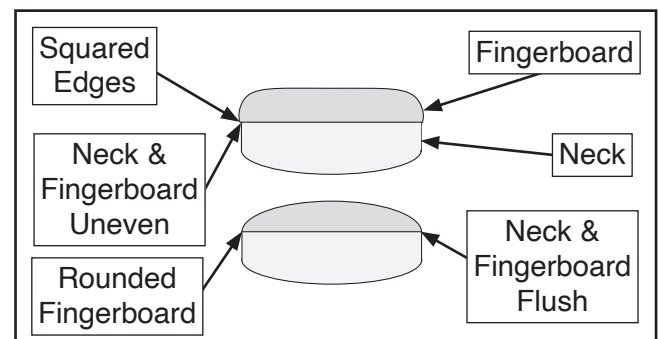

Figure 4. Shaping fingerboard.
5. Use sandpaper or file to round off any square or sharp edges. Make sure fingerboard and neck edges are flush (see **Figure 4**).